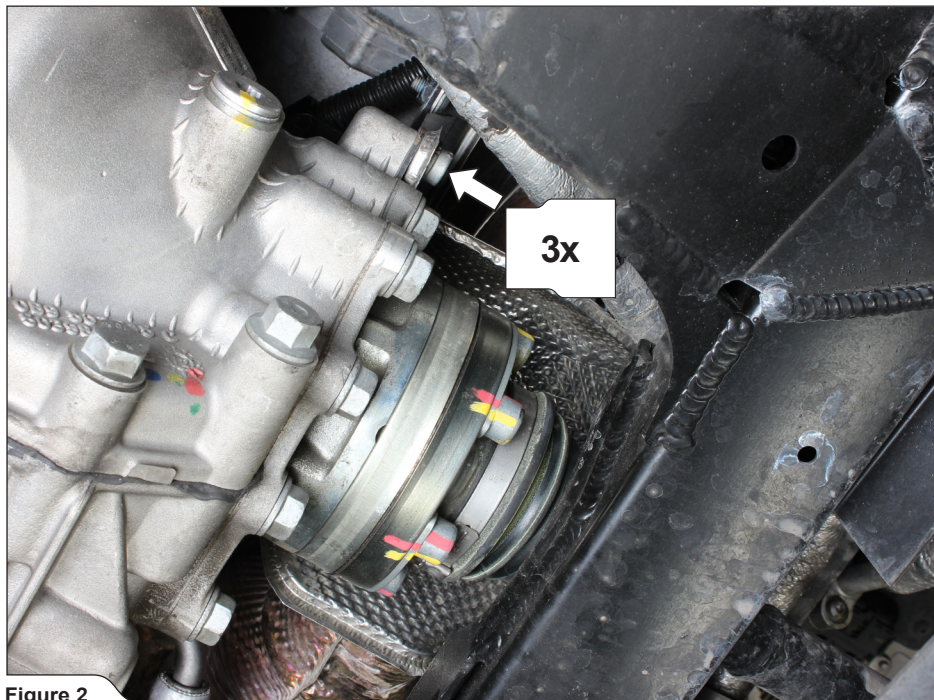

Figure 2
3. Unscrew the right drive axle's heat shield (Figure 2).